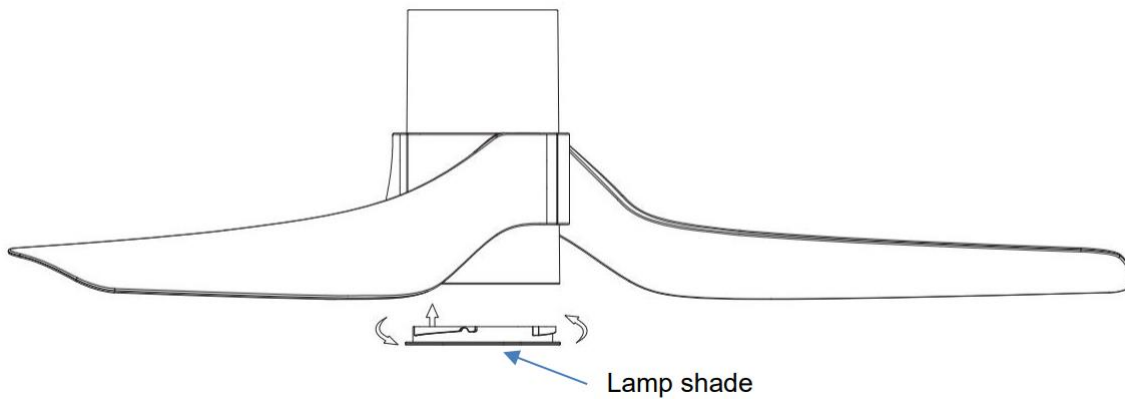

Fig. 10
5. Install the lamp shade to the light housing then secure it by turning clockwise. (Fig. 10)